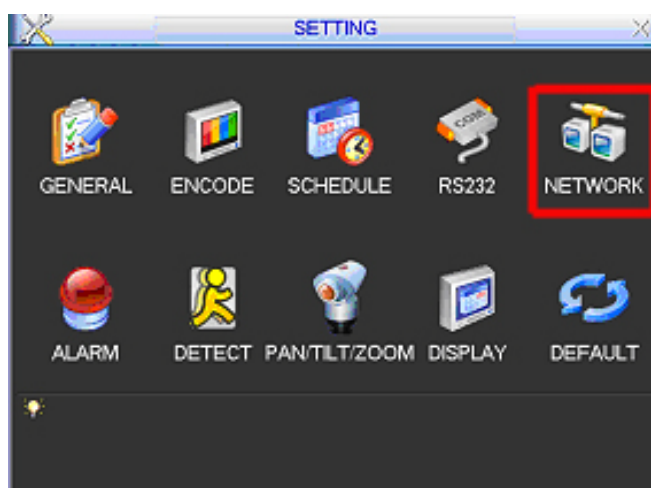

Figure 8-3
- e. Once you have completed steps a-d, go to the DVR and go to Menu→ Settings, Network (Figure 8-3).
- f. Clicking on Network (RED box in Figure 8-3) will generate a Network settings dialog box as illustrated in Figure 8-4. Checking the [DDNS] box (RED box in Figure 7-4) will display a DDNS setting dialog box as illustrated in Figure 8-5.